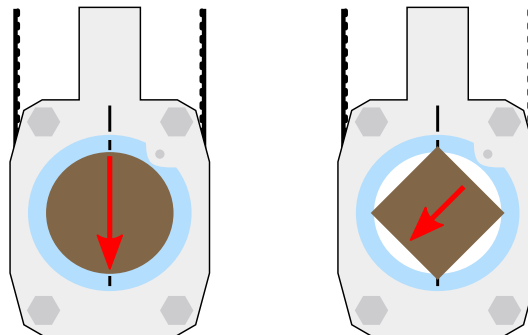

Figure 8: Inserting positions for 3D Rotator
Switch **ON** the Kappabridge, run the SAFYR software, push **ACTIVATE** button, choose AMS measuring mode and continue with the activation. Software detects the type of connected rotator automatically. Run **Execute|Calibration** and **Execute|Holder Correction** using 3D rotator. Routines are similar to the using Classical Rotator major difference is in the inserting position of the specimen which is as shown on the Fig. 8.
- For calibration with the **3D rotator** insert the calibration standard as shown on Fig. 8.